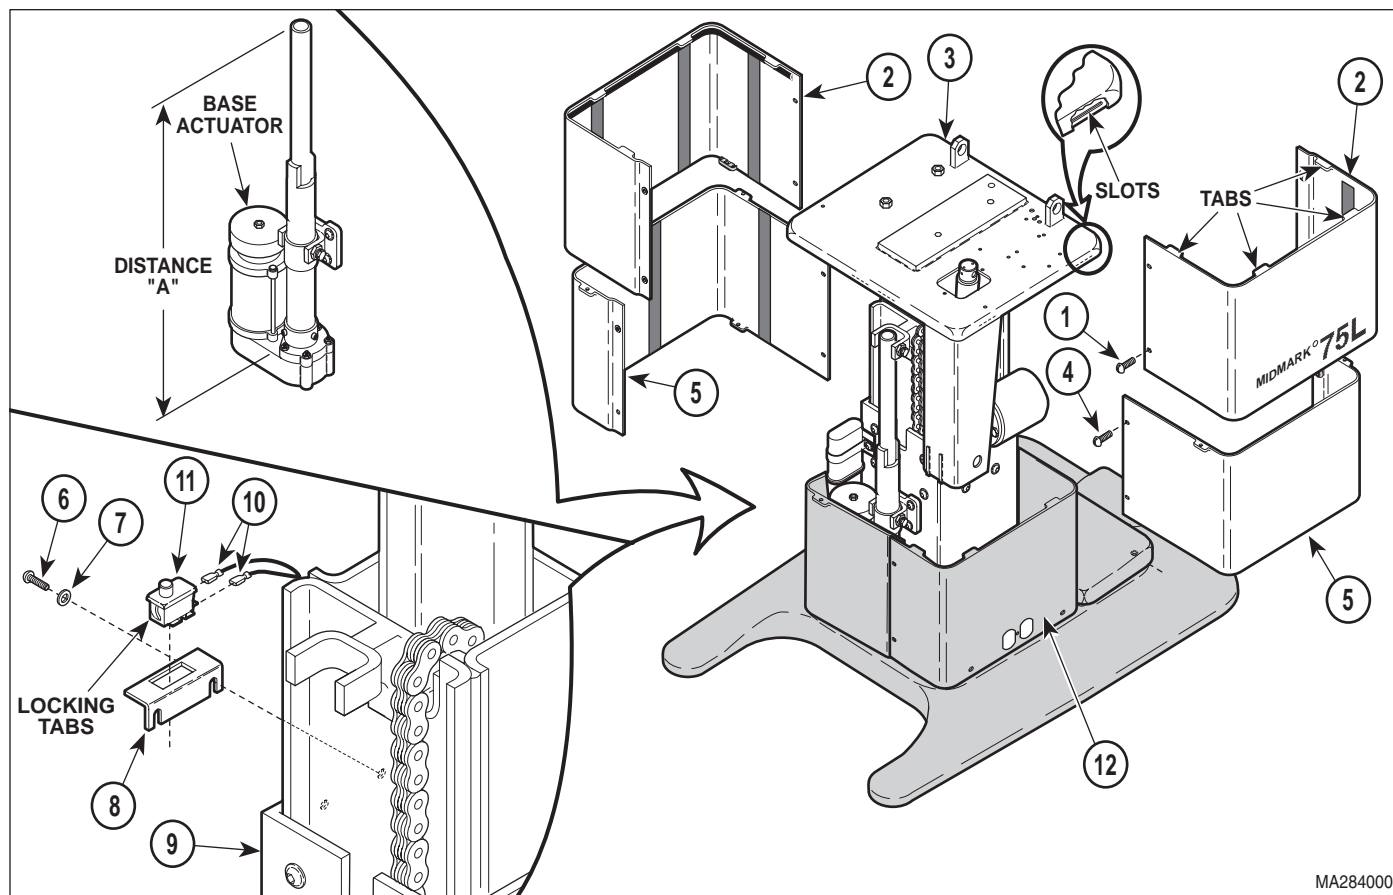

Figure 4-21. Base Down Limit Switch Removal / Installation / Adjustment
- (1) Unplug table power cord from wall outlet.
- (2) Remove four screws (1, Figure 4-21) and R.H. and L.H. outer shrouds (2) from column adapter weldment (3).
- (3) Remove four screws (4) and R.H. and L.H. middle shrouds (5).
- (4) Remove two screws (6), washers (7), and partially remove switch bracket (8) from column weldment (9).